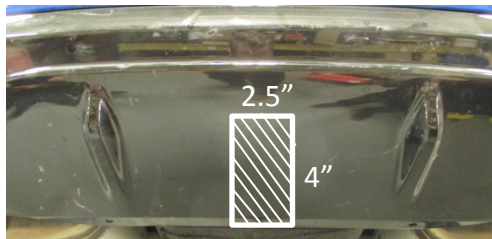

Figure 4
8. Trim fascia according to figure 4 and replace fascia by reversing step 1 including the heatshields, exhaust, and taillights.